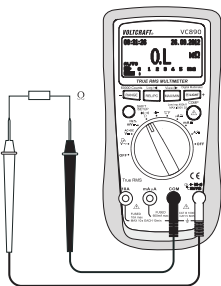

Fig. 5
2. Insert the red test lead in the  $\text{CHZV}\Omega$  measuring socket (7), the black test lead in the COM measuring socket (8) (Fig. 5).